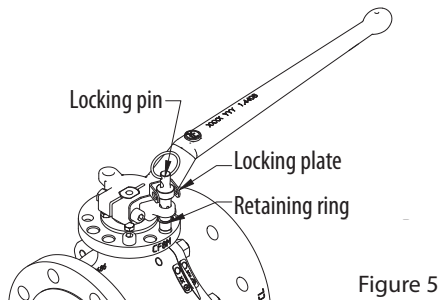

Figure 5
6. Attach the retaining ring in groove near the bottom of locking pin (Figure 5). This will assure the locking pin is attached to the lever.